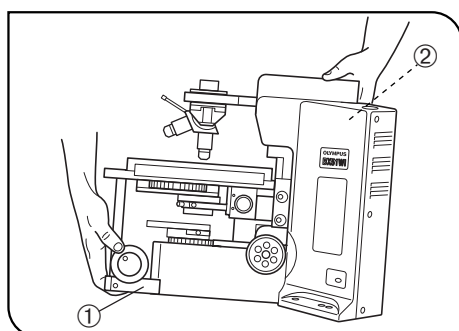

Fig. 1
3. When moving the microscope, disconnect the reflected light illuminator, observation tube and transmitted light lamp housing and carefully carry the microscope by the base (front edge) ① and the grasping part on the rear of the arm ② as shown in Fig. 1. (Weight: approx. 15 kg.) Also be careful against slipping of hands during carrying.